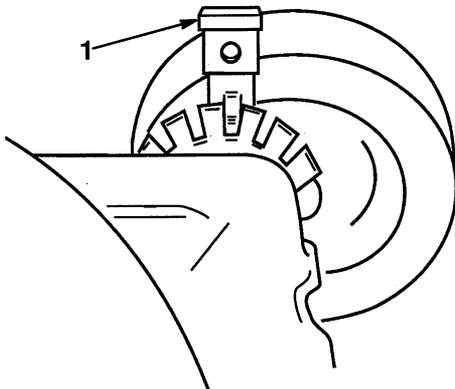

Figure 17
2. To change cutting height pull adjusting lever toward wheel and move to the desired position (Fig. 17).